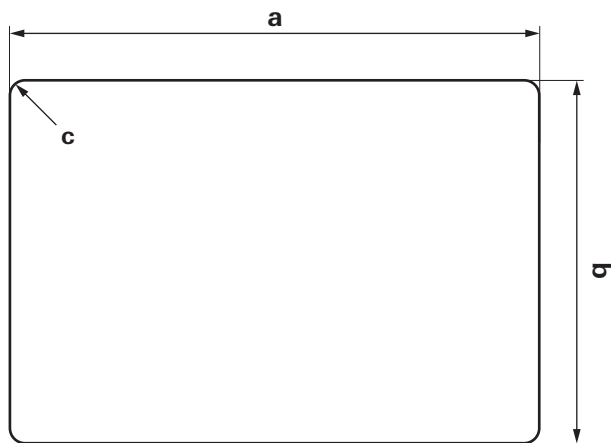

Fig. 1
- ▶ Mark the installation opening (Fig. 1).